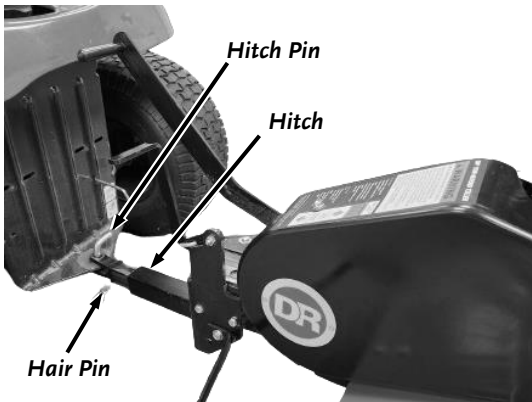

Figure 9
2. Attach the Hitch of the Tiller to the Tow Vehicle using a Hitch Pin and the Hair Cotter Pin (**Figure 9**).